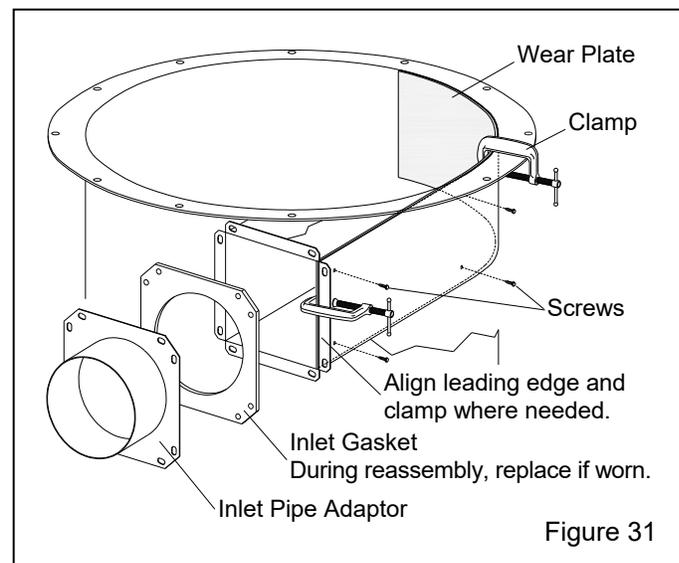

Figure 31
7.10 Replacing Reclaimer Wear Plate – Figure 31 Reclaimer with bolt-on, removable top